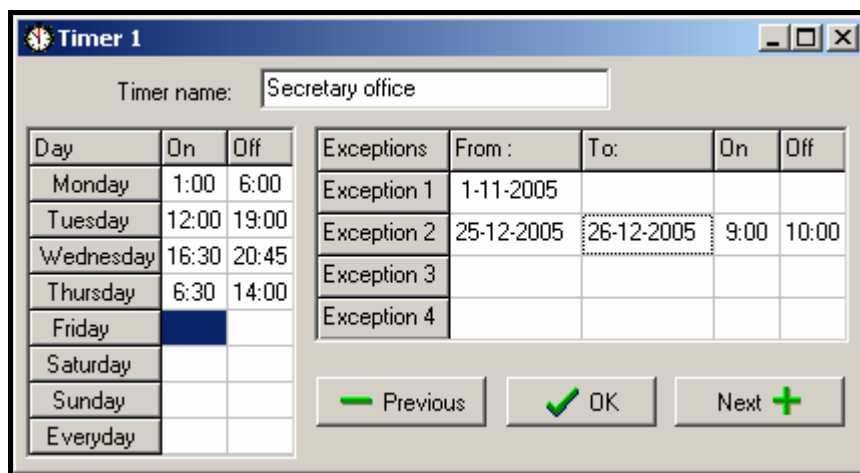

Fig. 4. Timing for *Controlled by timer* partition.
- **Access according to timer** – the partition is controlled by the user, but partition arming and disarming is only possible within time periods determined by operation of selected timers. Depending on the control panel size, an option with 16 or 32 timers is provided. Beyond those time periods neither arming, nor disarming of the partition is possible. For example, if the timer shown in Figure 4 is selected to control access to the “Secretary office” partition, the partition arming / disarming will be possible according to schedule – on Monday between 16:30 and 16:45, on Friday between 18:00 and 18:15 and so on, except for the time periods given in the timer exception table.